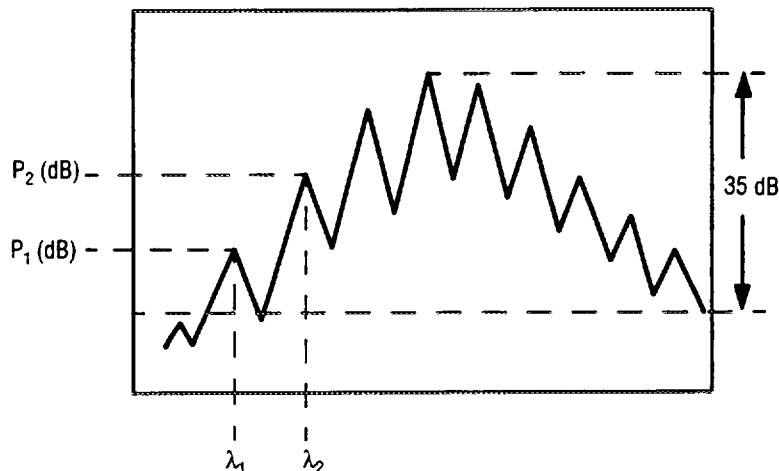

Figure 8. Typical Display of Source Mode Pattern
5. Make another measurement of the Source's mode pattern. A pattern similar to Figure 8 should result. Measure the frequency and amplitude of each peak greater than -35 dBc (35 dB below the maximum peak) and record the value in Table 1.